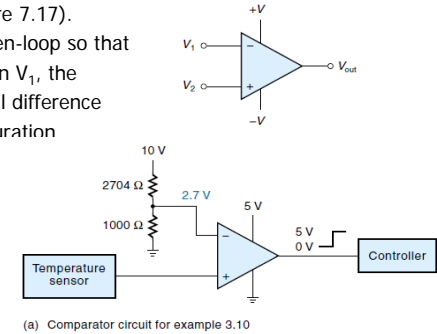

Figure 7.17 Comparator circuits.
- A **comparator** is such a circuit (Figure 7.17).